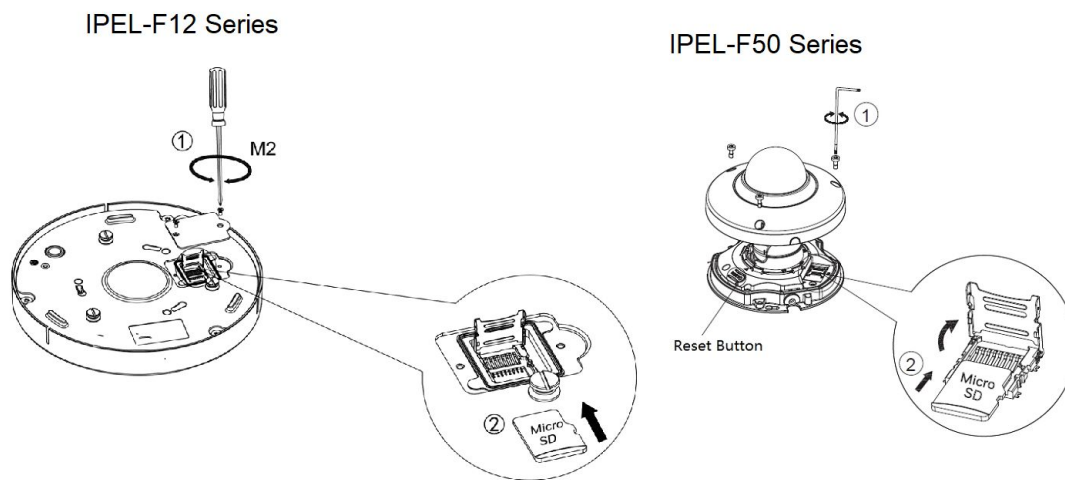

Figure 2-5
Step 2 Slightly press the RESET button for 15-30 seconds to complete the reset function. See Figure 2-5. The camera will reboot when the reset process is complete.
Step 3 (If installing SD Card) Adjust the Micro SD Card to a proper direction shown in Figure 2-5.